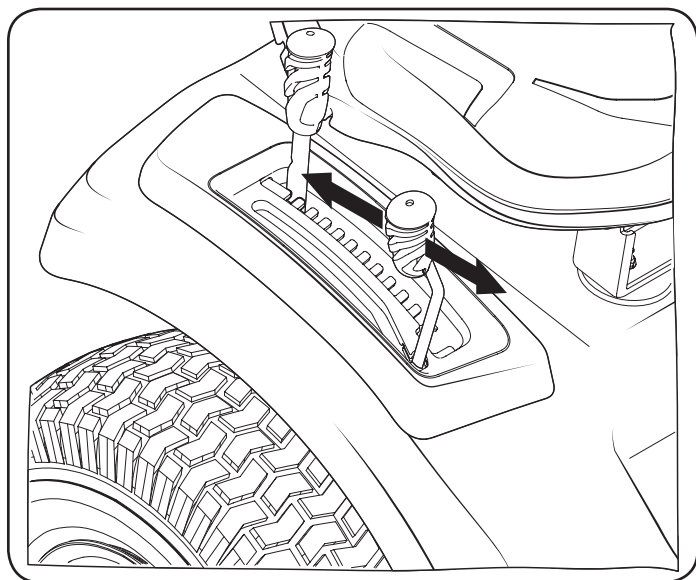

Figure 14
2. Push the PTO handle forward into the engaged (ON) position. See Figure 14.